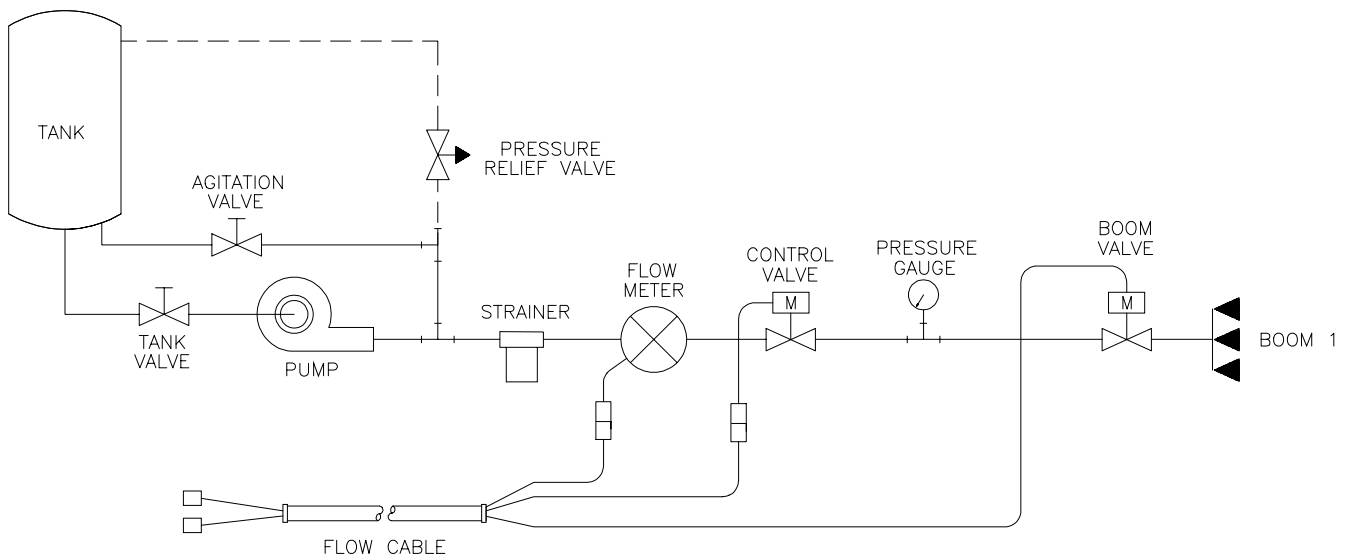

FIGURE 2
- 1) Mount the Flow Meter in the area of the boom valve per Figure 2. All flow through the Flow Meter must go to the boom valve only, i.e. no return line to tank or pump after Flow Meter.